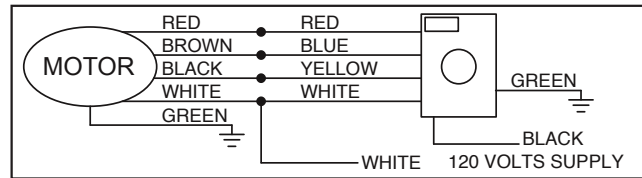

Figure 5
6. Slide the lower canopy (C) to allow a 1/4” minimum height above the motor.
7. Attach the three blades, curved side down to the motor with the insulation pad mounted between the blade and the motor (See Figure 5). Make sure blade holder is flat against motor platform when tightening blade nuts for secure fit.